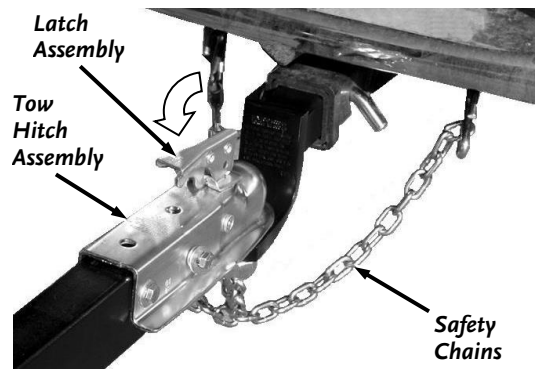

Figure 32
4. Close the Latch Assembly on the Tow Hitch Assembly to lock it onto the Tow Ball (Figure 32). Attach the towing Safety Chains to the tow vehicle ensuring there is enough slack for turning.